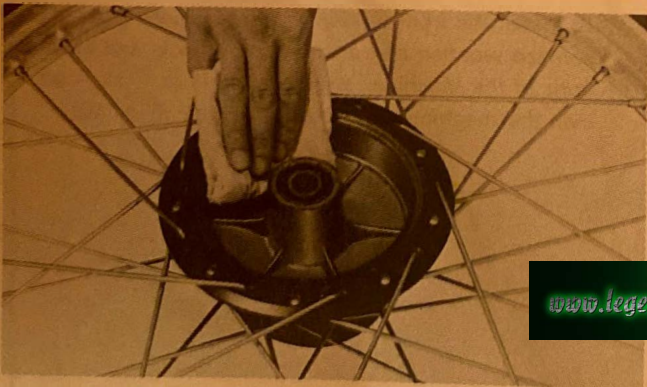

Fig. 14
(1) Clean the inner surface of the front wheel hub with a clean cloth. (Fig. 14)